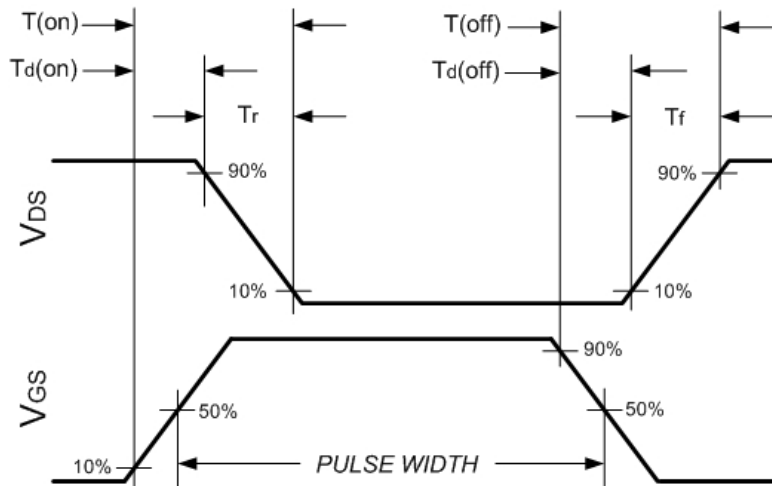

Figure 1. Switching Characteristics Waveforms and Symbols
- Refer to Figure 1 for definition of switching characteristics symbols.